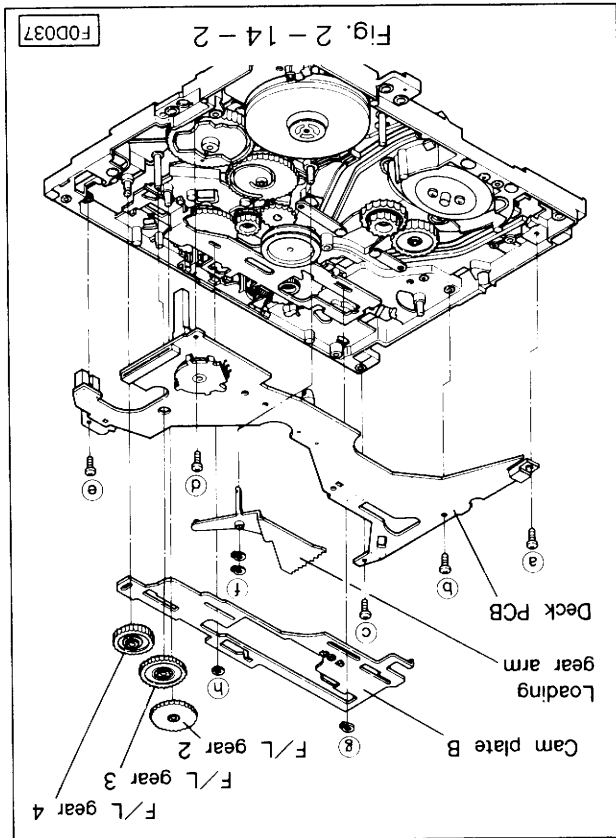

Fig. 2-14-2
C. Detach two grip rings (f) shown in Fig. 2-14-2 and remove the loading gear arm.
E. Unfasten the catches and remove the F/L gear 2, 3 and 4. (Refer to Fig. 2-14-2.)
F. Remove grip ring (g) and cut washer (h), and unfasten three catches shown in Fig. 2-14-2 to remove the cam plate B. (Refer to Fig. 2-14-2.)
G. Unscrew five fastening screws (a) to (e) and remove the deck PCB. (Refer to Fig. 2-14-2.)
I. Make certain that the mode switch is in the eject position. Fasten the deck PCB assembly with five screws and solder the FE head terminals. (Refer to Fig. 2-14-2 and 2-14-1.)